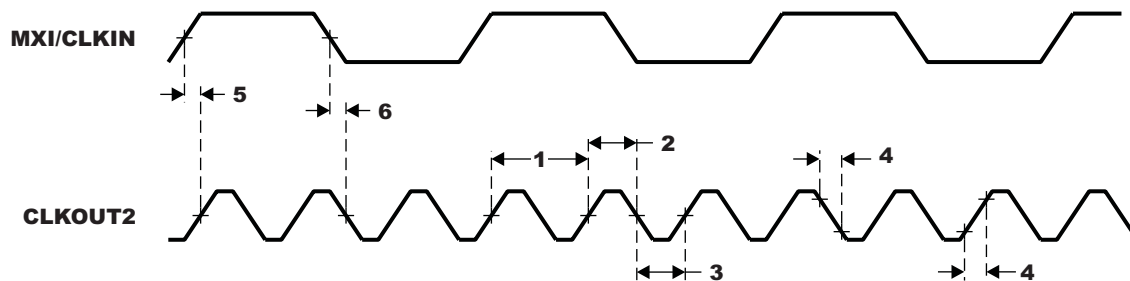

**Figure 5-9. CLKOUT1 Timing**
**Table 5-7. Switching Characteristics Over Recommended Operating Conditions for CLKOUT1(1) (2) (see Figure 5-9)**